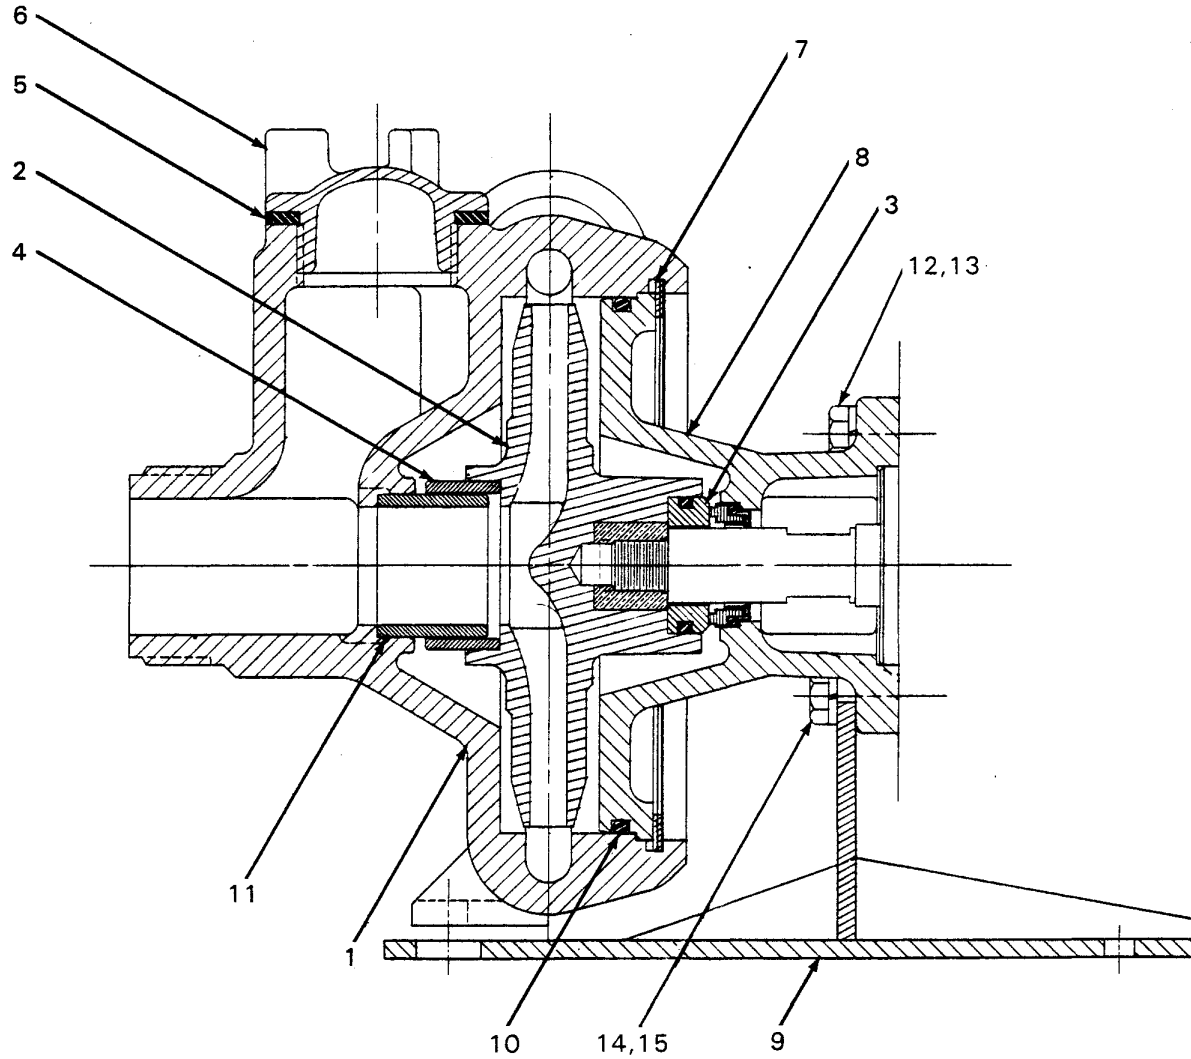

Figure 2. Sub-Assembly Pump Model 61 1/2 DP
For access to the impeller (2, figure 2), and seal assembly (3), separate the volute housing (1) from the intermediate bracket (8).
Disengage snap ring (7, figure 2), securing the volute housing to the intermediate bracket and separate the assemblies. The impeller is now accessible.
Remove fill cap (6, figure 2) and fill the volute with clean liquid and make certain that all piping is securely tightened before starting the pump.